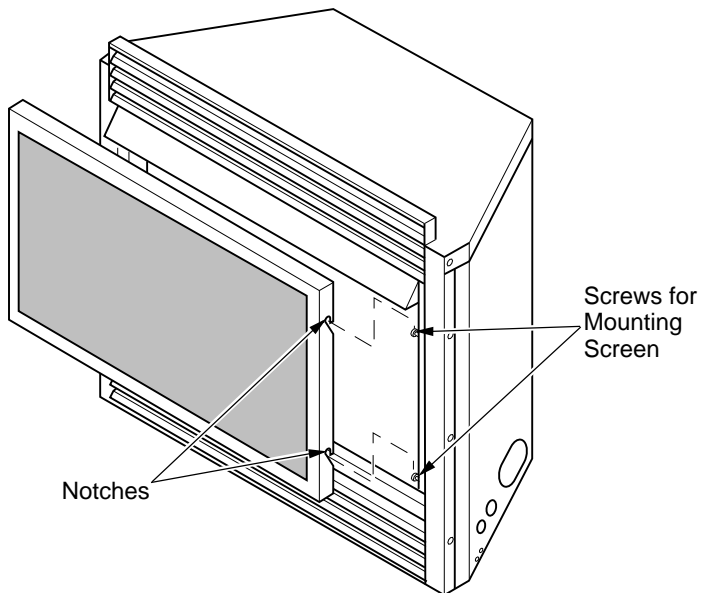

Figure 26 - Installing Fireplace Insert Screen
2. Install fireplace insert screen by slipping notches of fireplace insert screen over screws on front of fireplace insert (see Figure 26).